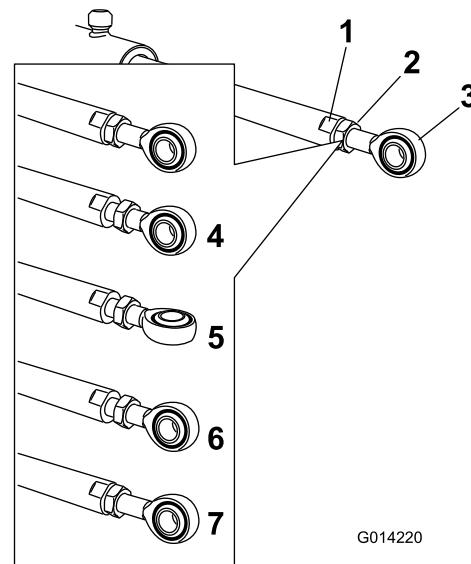

Figure 110
5. Use a wrench on the flat sides of the actuator rod to immobilize it, then loosen the jam nut to allow the eyelet rod to be adjusted (Figure 110).
- Turn the eyelet rod in the actuator rod to shorten or lengthen the extended actuator to the desired position (Figure 110).